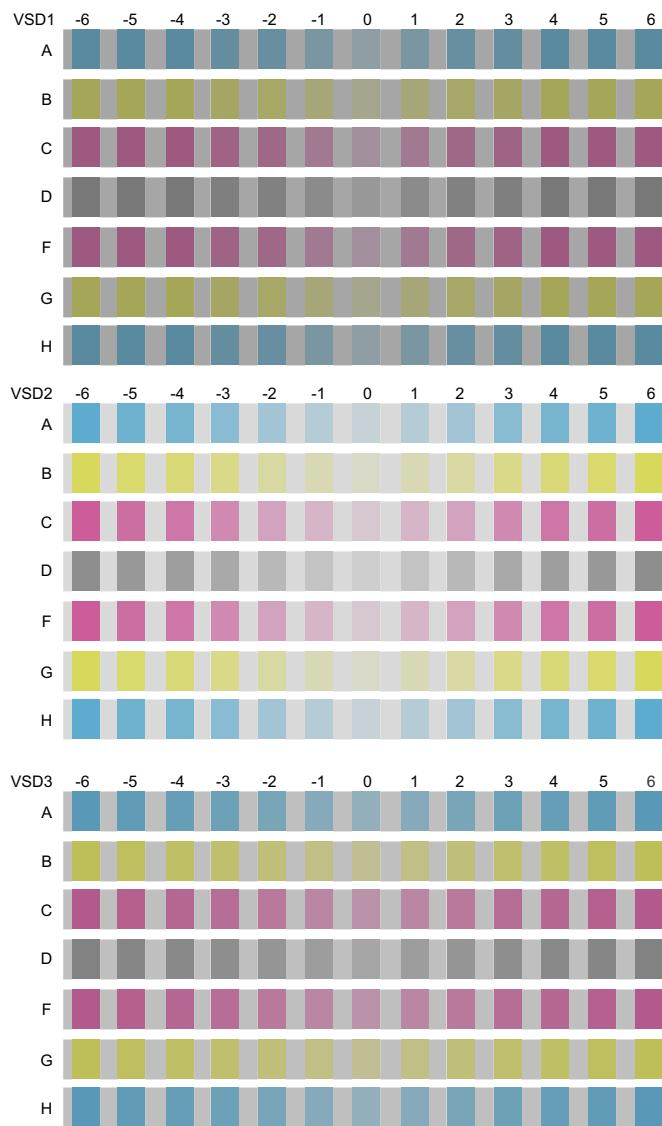
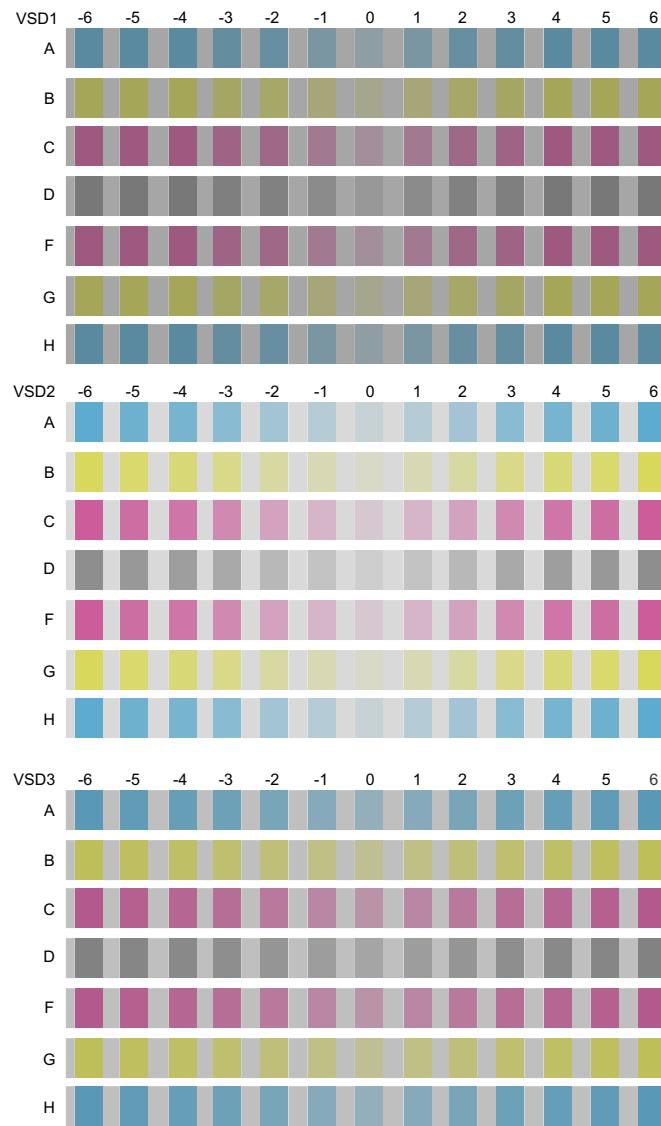

Figure 4-47. Adjustment pattern (1)
Figure 4-48. Adjustment pattern (2)
- Refer to Figure 4-47 and Figure 4-48, select the printed pattern with the most pale color, and input it in the service program.